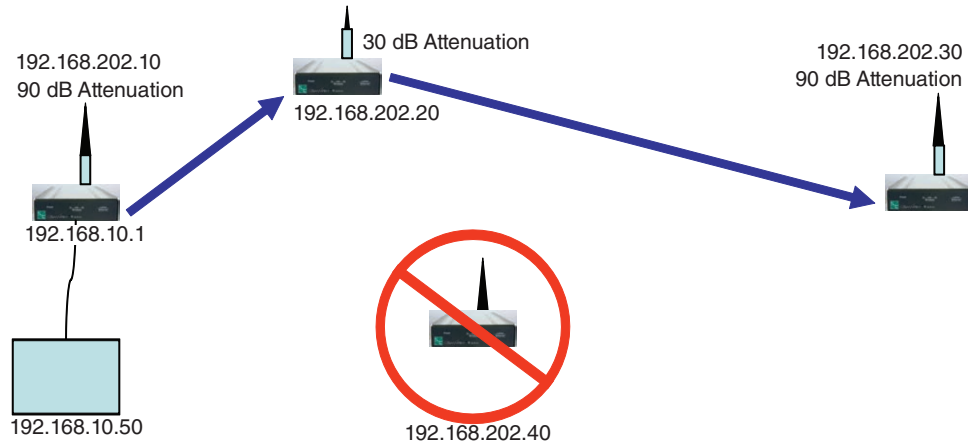

Figure 36. Testing for alternate routing, Node 40 not available.
STEP 6. Observe the pings as the network finds a route through Radio #20. See Figure 36. C:\ping 192.168.202.30 -t. C:\>tracert 192.168.202.30.